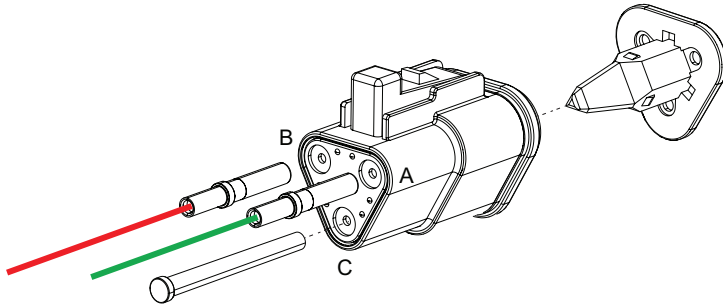

Figure 4
17. Crimp Deutsch terminals (0128782) on end of red and green harness wires, see Figure 4.
18. Insert green wire into connector (2HB201) position A, see Figure 4.
19. Insert red wire into connector (2HB201) position B, see Figure 4.
20. Insert cavity plug (A000U646) into connector position C, see Figure 4.
21. Insert wedge lock (1131489) into front of connector, see Figure 4.